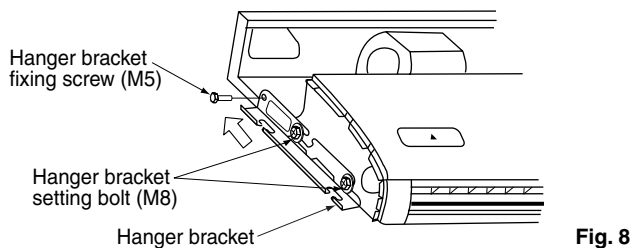

Fig. 8
- After removing the securing screws (M5) for the hanger brackets which are on the rear side, pull the hanger brackets back (in the direction of the arrow), and remove them. (Refer to Fig. 8)